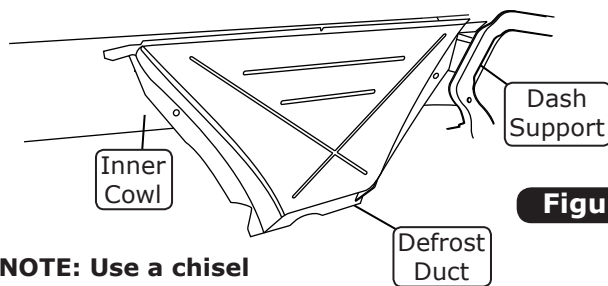

Figure 2
6. Using a chisel or die grinder, remove (3) spot welds on the defrost duct (See Figure 2, below).